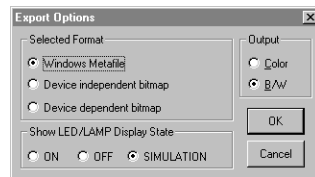

Figure 7.2. The Export Options dialog lets you specify output settings.
- 1 Choose **File > Export > Schematic Options** to display the dialog box shown in Figure 7.2.